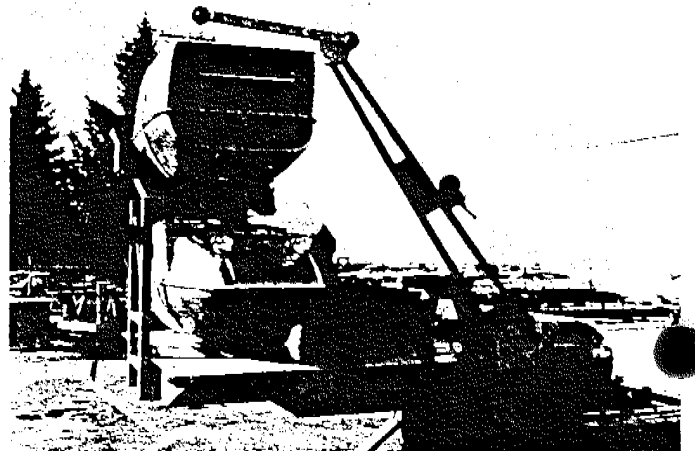

Fig. 38
a. Set up the jib crane for handling the two cars stored on the gooseneck. Lock the jib crane in place with a pin. (Fig. 38)
- a. Reassemble the jib crane to install the 2 cars that are stored on the gooseneck. (Refer to Figs. 38 & 39)